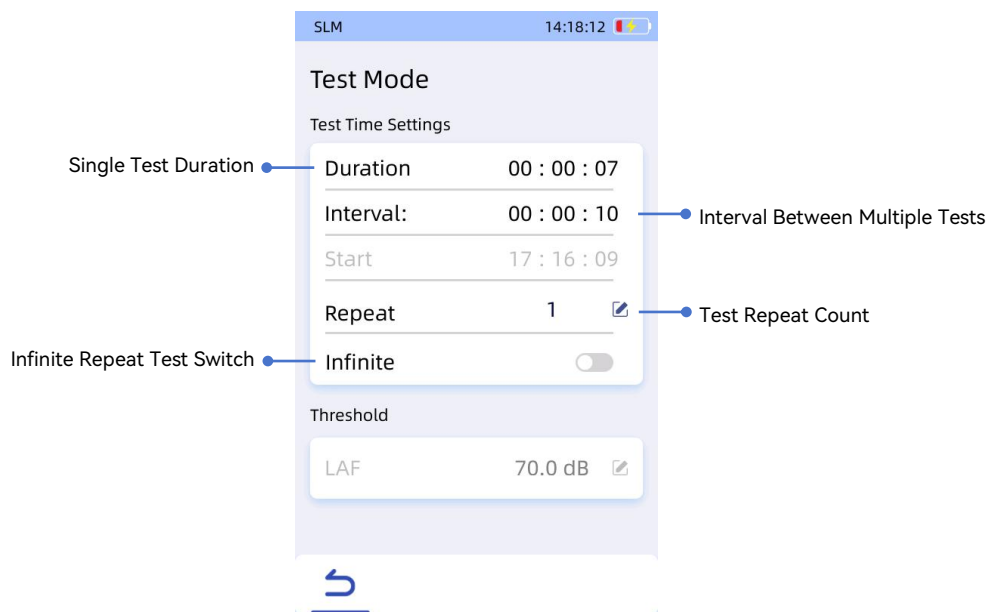

Fig 6.15 Automatic Mode Parameter Settings
- b. Automatic Mode: After clicking the start test button in the main interface, the application will automatically conduct the first test based on the user's set duration. After the first test, it will conduct a second test after the user's specified interval, and so on. The number of repetitions refers to how many times the test will be conducted, as set by the user. If the user enables the infinite repeat option, the automatic tests will continue indefinitely until the user manually stops them. When automatic testing is selected, the settings interface for the test mode will appear as shown in Figure 6.15, where the start test duration cannot be edited.
Click "Data Playback" to enter the interface shown in Figure 6.15. In this mode, users can filter the data according to a time interval and click on the corresponding data for a preview. The function buttons above include: Select, Select All, and Delete, allowing users to manipulate the data. Additionally, the data playback interface can also facilitate printing operations, as detailed in the appendix "Using the Printer".
Clicking "Data Playback" takes you to the interface shown in Figure 6.15. In this mode, users can filter data based on time intervals and click on specific data points for preview. The upper function buttons include: Select, Select All, and Delete, allowing users to manipulate the data. Additionally, the data playback interface can facilitate printing operations, as detailed in the appendix "Using the Printer".